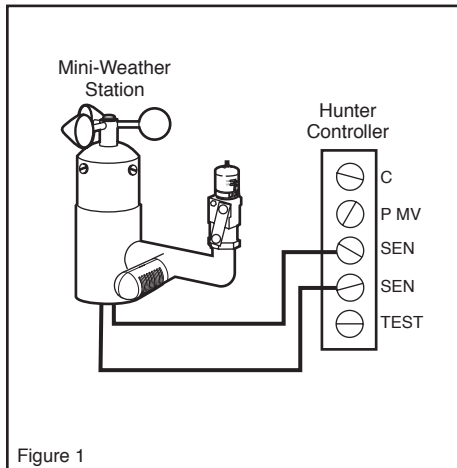

Figure 1
2. Connect both wires to the SEN terminals (Figure 1).